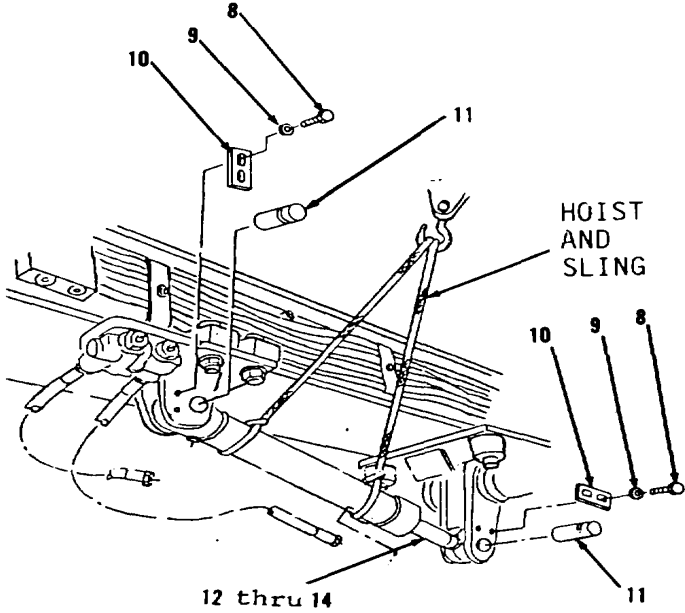
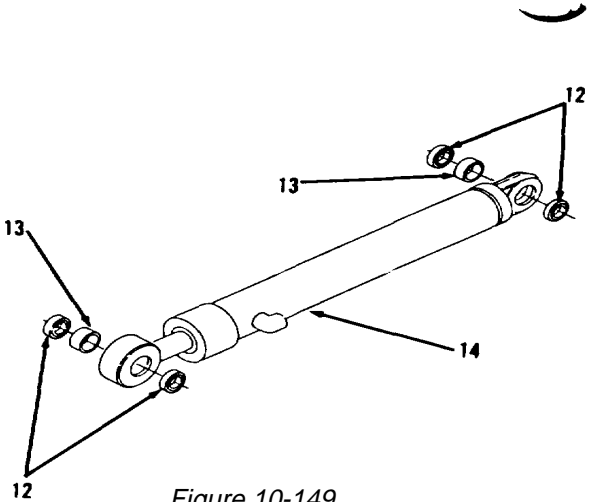

Figure 10-148.
Figure 10-149.
- 7. Remove four bolts (8), four washers (9) and two locks (10, Figure 10-148).
- 8. Remove two pins (11).
- 9. Remove items 12 thru 14 as an assembly from mounting brackets and lower onto suitable repair stand or work bench with padding.
- 11. Remove four seals (12) being careful not to damage bearings (13, Figure 10-149). Discard four seals (12).
1. Using suitable driver and hammer, install four new seals (12, Figure 10-149) in eye of rod with lips toward outside. Lips must be approximately even with outer surface of rod eye.
2. Using suitable driver and press, install two bearings (13). if removed. Two bearings (13) contact two new seals (12).
3. Attach hoist and sling to items 14 thru 12 as an assembly (Figure 10-148).
4. Using hoist and sling, position items 14 thru 12 as an assembly in mounting brackets. Remove slack from sling.
5. Install two pins (11), locks (10), four washers (9) and bolts (8). When installing two pins (11), use care not to damage four new seals (12) or two bearings (13).